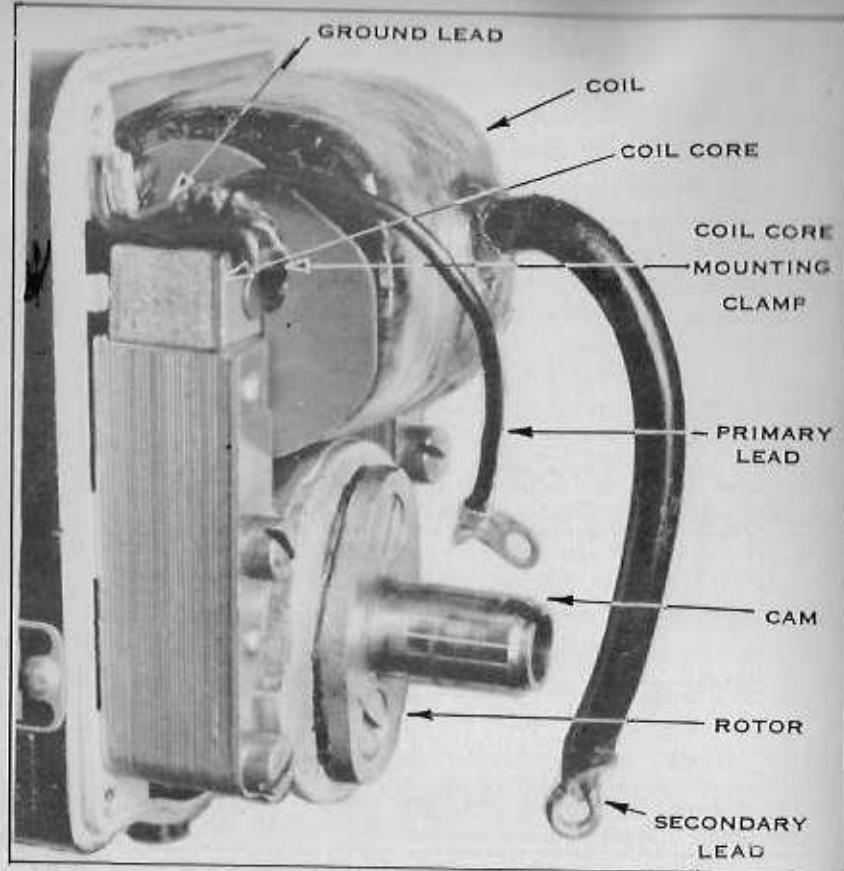

FIG. 49 MAGNETO (SHOWING COIL MOUNTING)
- a. Disconnect the lead terminals from the condenser, Fig. 26, unscrew the four fillister head screws which hold the housing group to the magneto frame. Lift the housing group, including breaker assembly, from the magneto. This gives access to the coil and core assembly, Fig. 49.